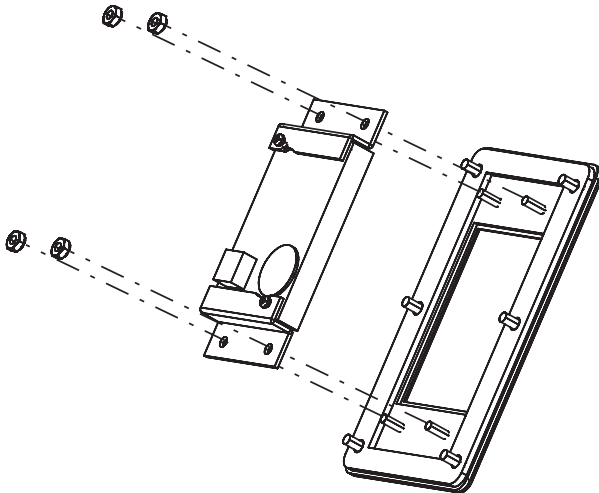

Figure 3 Mounting Bracket Assembly
5. Mount the Z-Bracket Subassembly from the previous step to the Mounting Bracket Subassembly. Use the provided #8-32 nuts and tighten to 18 lb-in (2.03 Nm). Refer to Figure 3.